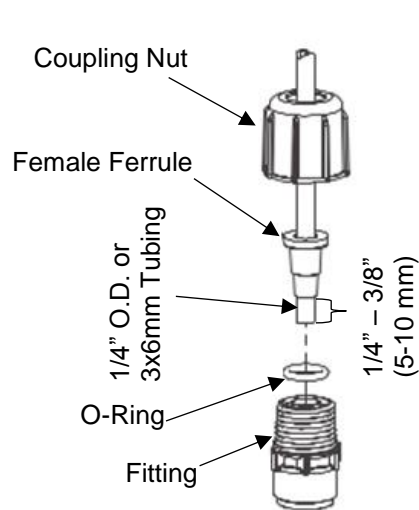

Figure 4: 1/4" OD Tubing Connections
- a. For 1/4" OD tubing: Position the Female Ferrule so that 1/4" to 3/8" (5-10 mm) of tubing protrudes from the Female Ferrule. Orient the raised collar of the Ferrule toward the Coupling Nut (reference Figure 4: 1/4" OD Tubing Connections).